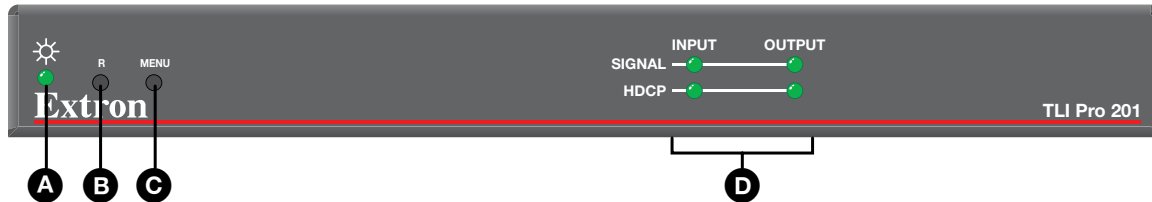
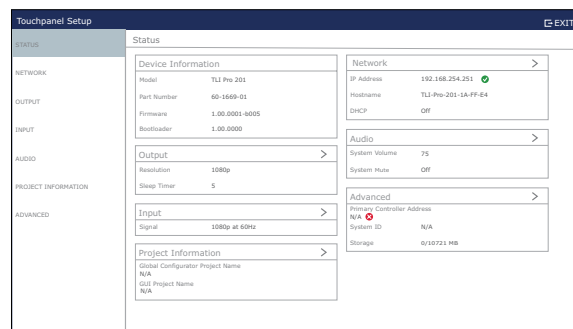

Figure 4. TLI Pro 201 Front Panel
Figure 5. Setup Menu
- **Use Factory Firmware:** Press and hold the **Reset** button (see figure 4, **B**, on the previous page) while applying power to the unit. Use this mode to replace firmware in the event of firmware failure.
Press the **Menu** button (see figure 4, **C**, on the previous page) to show the setup menu (see figure 5) on the connected display. There are seven available screens that are selected by pressing the appropriate button in the navigation bar on the left side of the screen.